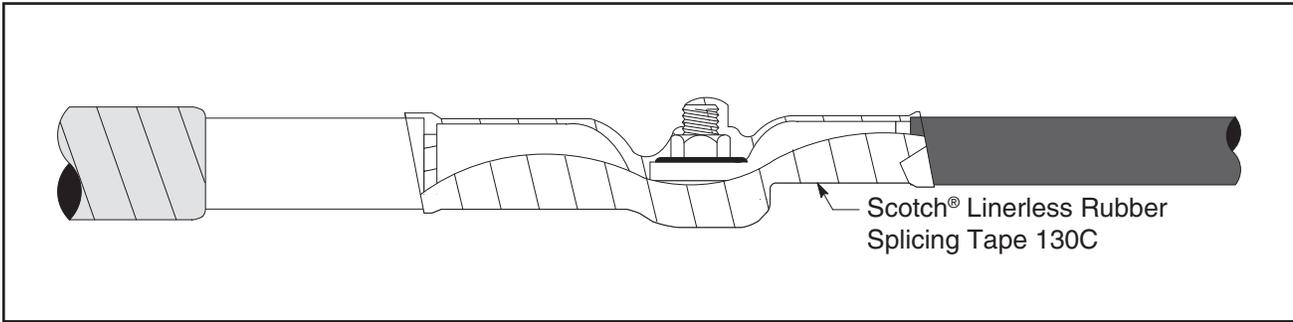

Figure 14
8.6 FOR 8 kV ONLY. Cover the lugs and bolt with four half-lapped layers of Scotch® Linerless Rubber Splicing Tape 130C (Figure 14).